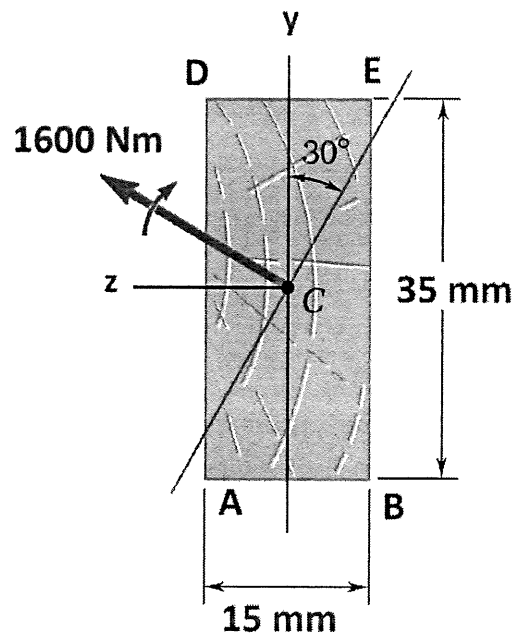

Figure 7
- a) The couple 1600 Nm is applied to a beam of the cross section in a plane forming an angle 30° with the vertical shown in Figure 7.